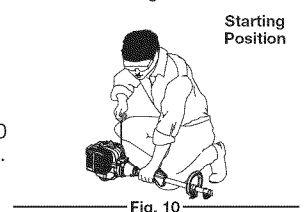

Fig. 10
WARNING: Avoid accidental starting. Make sure to be in the starting position when pulling the starter rope (Fig. 10). To avoid serious injury, the operator and unit must be in a stable position while starting.
5. Crouch in the starting position (Fig. 10). Do not squeeze the throttle. Pull the starter rope in a controlled motion until the unit starts.